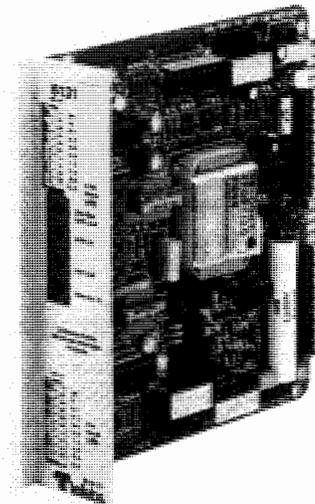

figure 1. 6131 2Wire-to-4Wire or 4Wire-to-4Wire Terminal Interface Module
1.01 The 6131 2Wire-to-4Wire or 4Wire-to-4Wire Terminal Interface Module (figure 1) provides transmission interface between a 2wire or 4wire metallic facility and a carrier channel or PBX. Both adjustable prescription-set loss and switch-selectable 2wire-to-4wire or 4wire-to-4wire operation are available. For non-FCC-registered applications, straps on the 6131 may be removed to independently allow each transmission path to be optioned to provide either loss or gain. In addition, the 6131 accepts any plug-on Tellabs 6008X Signaling Converter subassembly to provide optional signaling conversion between a variety of facility-side signaling formats and terminal-side E&M signaling.